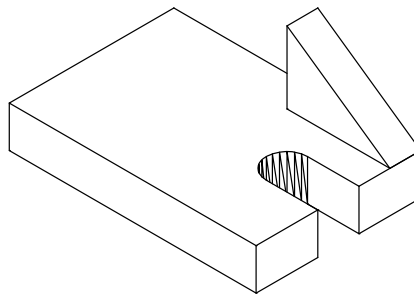

Figure 26-119 Wedge aligned with the base
9. Move this wedge and align it with the base. Use the **Vertex** option of the **3D Object Snap** to snap the vertex. The model after applying the **Hidden** visual style is shown in Figure 26-119.